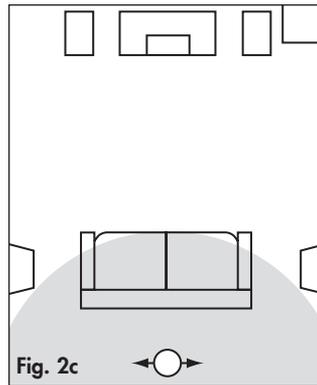

Fig. 2c
6.1-Channel System: Wide Dispersion Rear Placement Using One Speaker (Fig. 2c)